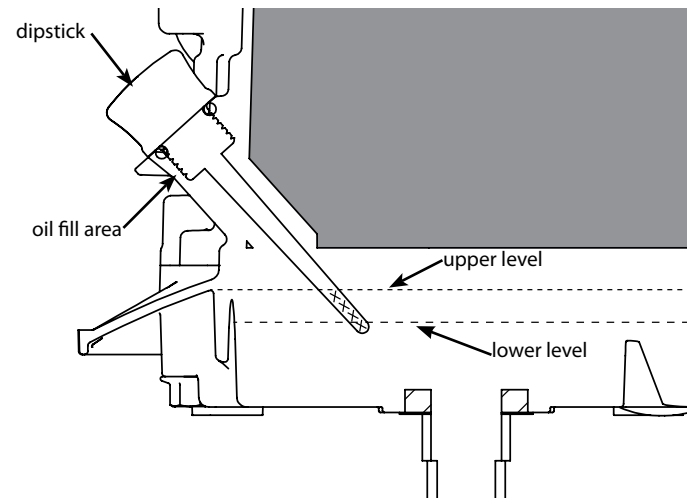

Figure 1
1. Clean around oil fill area. **SEE FIGURE 1.**
2. Slide out dipstick and wipe clean with cloth. **SEE FIGURE 1.**
5. If oil level is below the marking on the oil dipstick, refill to upper level. **SEE FIGURE 1.**